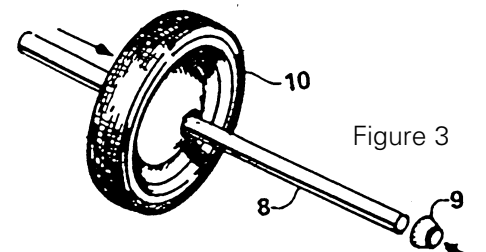

Figure 3
3. Refer to Figure 3. Select the following parts for assembly: